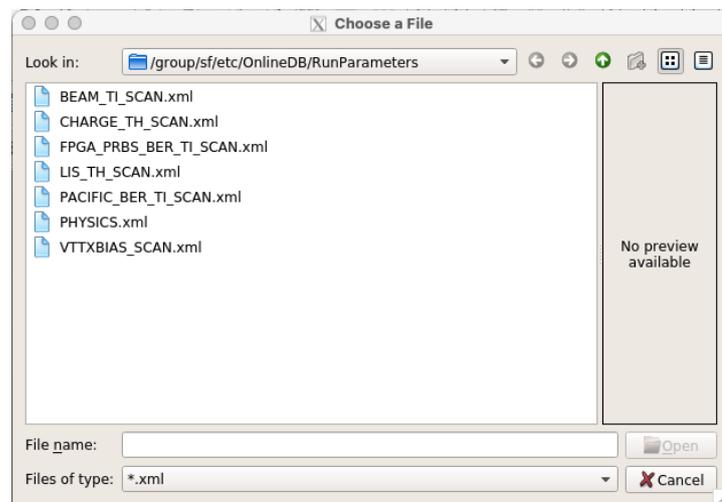

Figure 2 File selector
- **File:** Here user can select which XML file need to be used as an input to the DB. To do that after pressing the "Select XML file" the file selector will pop up - Figure 2. When the file is selected, its name – without the full path – will be printed in the text field on the left of the button.
The file selector (Figure 2) can move to another directories. The default file path is highly advisable for all the version of the XML files.